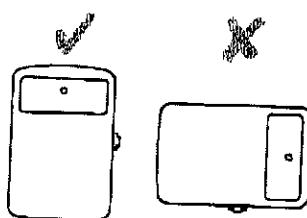

Fig.4
12. Stick the Velcro onto back of the remote sensor then stick it onto your property such as TV, Hi-Fi or computer. Please notice that the remote sensor works best with vertical position (Fig 4).